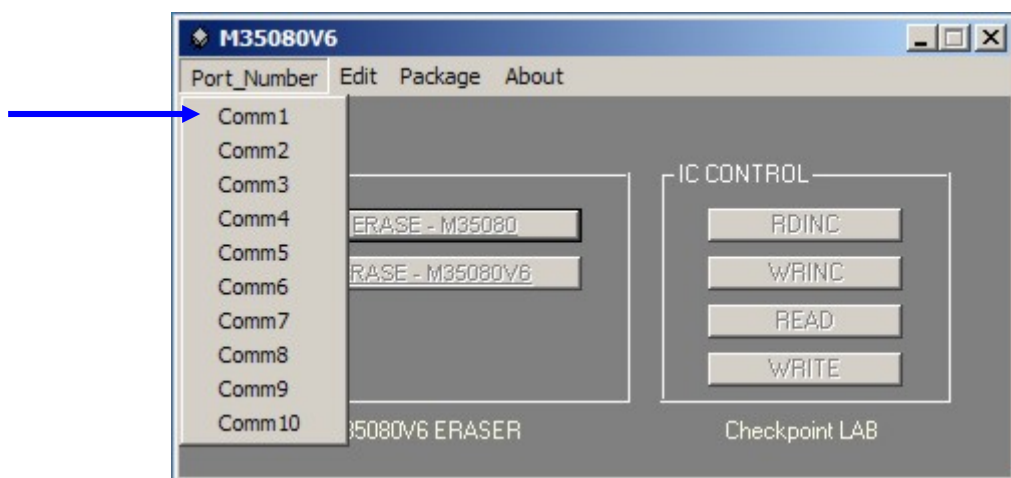

Figure 11.
Step 4: Select serial port (Figure 11)